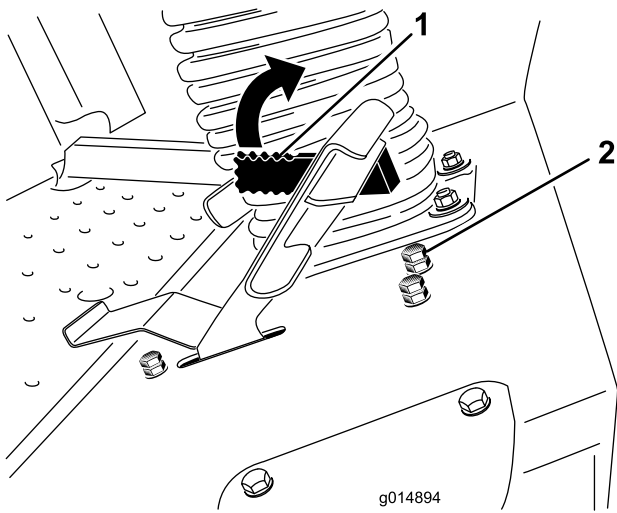

Figure 61
The mow speed limiter lever (Figure 61) can be flipped forward to limit the traction speed while operating.
3. Loosen the jam nut on the mow speed limiter stop bolt (Figure 61).